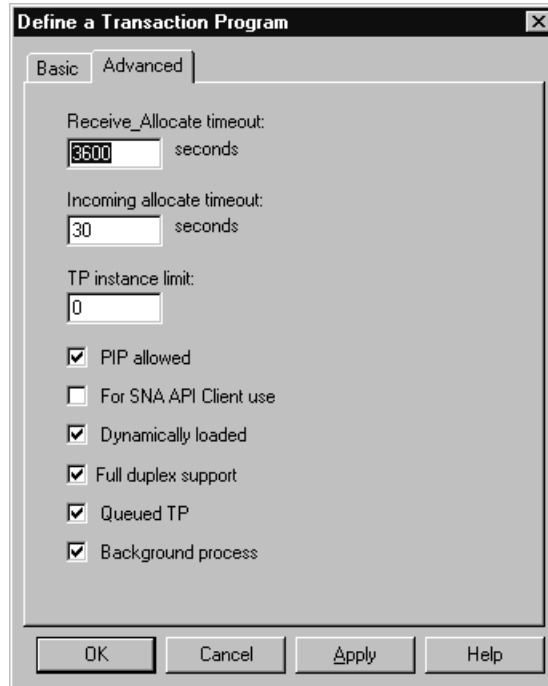

Figure 86. Define a transaction program window: advanced page
- a. In the entry fields enter the values that are shown in Figure 86.